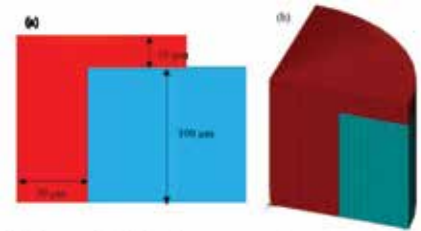

Figure 4 (a) Cross-sectional schematic of TPV (b) 3-D meshed model of 1/8th of TPV.
Young’s modulus for rigid inclusions in a rigid matrix can be statistically determined by different numerical models [10]. Hashin-Shtrikman bounds [18] were used to predict the upper and lower bounds for the bulk modulus; the separation is dependent on the modulus ratio of particle to matrix, E_p/E_m . Here, the value of m is 5.3 and the bounds are closely matched as shown in Fig. 4. Counto [20] model assumes perfect bonding between the particle and the matrix and is given by Equation (5), Isahi-Cohen [21] model assumes the constituents to be in a state of macroscopically homogeneous stress with uniform displacement in all directions and is given by Equation (6). The estimated properties are used to predict the warpage and glass stresses.
pitch are assumed as 60 and 120 microns respectively. The cross-sectional schematic of the model is presented in Fig. 4. Material properties from Section A and C were used as given in Table 3. Room temperature is assigned as the stress-free temperature for glass while 50 C is assigned to copper. Thermal loading is used to generate stresses at the extreme temperatures of 125 and -55 C. The thermal conductivities of the materials were not taken into account. The stress analysis is presented in Table 4. It can be seen that lowering the CTE lowered the principal stresses in glass by 2-3X. This reduction makes the glass more tolerant to larger defects from TPV fabrication or dicing.